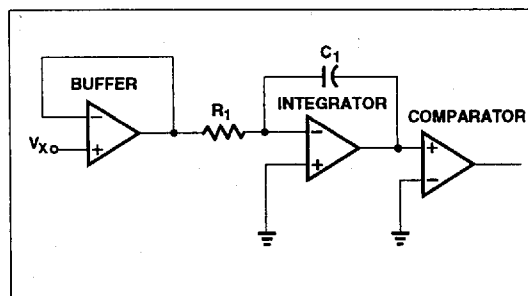

Figure 8. Equivalent Circuit Diagrams of the Analog Section During Segment 4 of the Timing Cycle
**Segment 4** — Segment 4 is an up-going ramp cycle with the unknown input voltage ( $V_x$ ) as the input to the integrator. Figure 8 shows the equivalent configuration of the analog section of the TC14433. The actual configuration of the analog section is dependent upon the polarity of the input voltage during the previous conversion cycle.